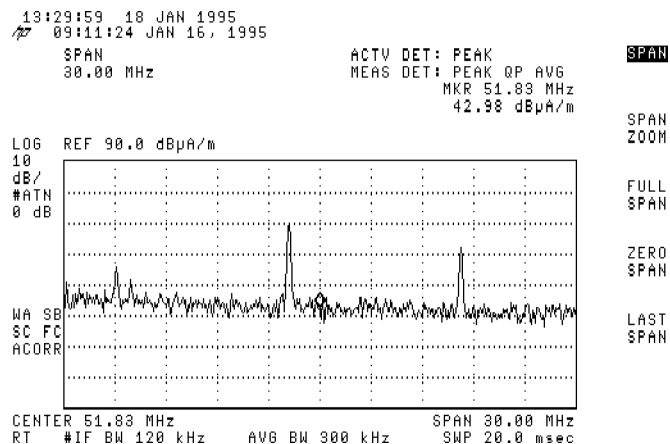

Figure 7-4. Reducing the span.
10. To reduce the span, use the keypad to input the desired span, for example, 30 **[MHz]**. Refer to Figure 7-4.